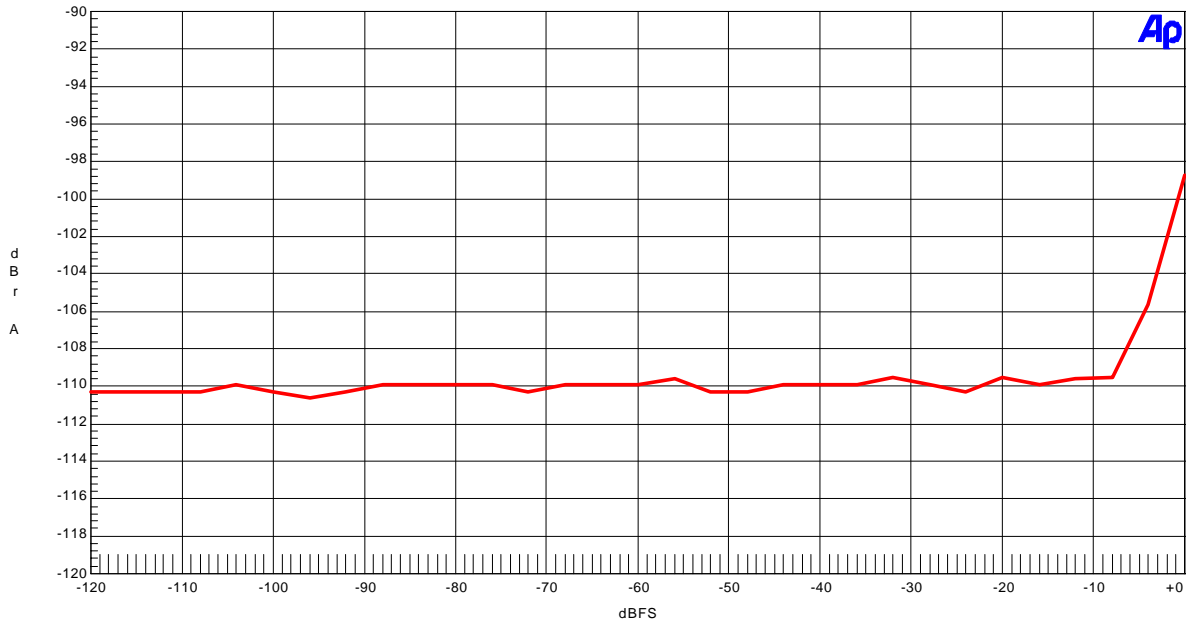

Figure 6. THD+N vs Input Level (fs=44.1kHz; fin=1kHz)
- Figure 6. THD+N vs Input Level (fin=1kHz)